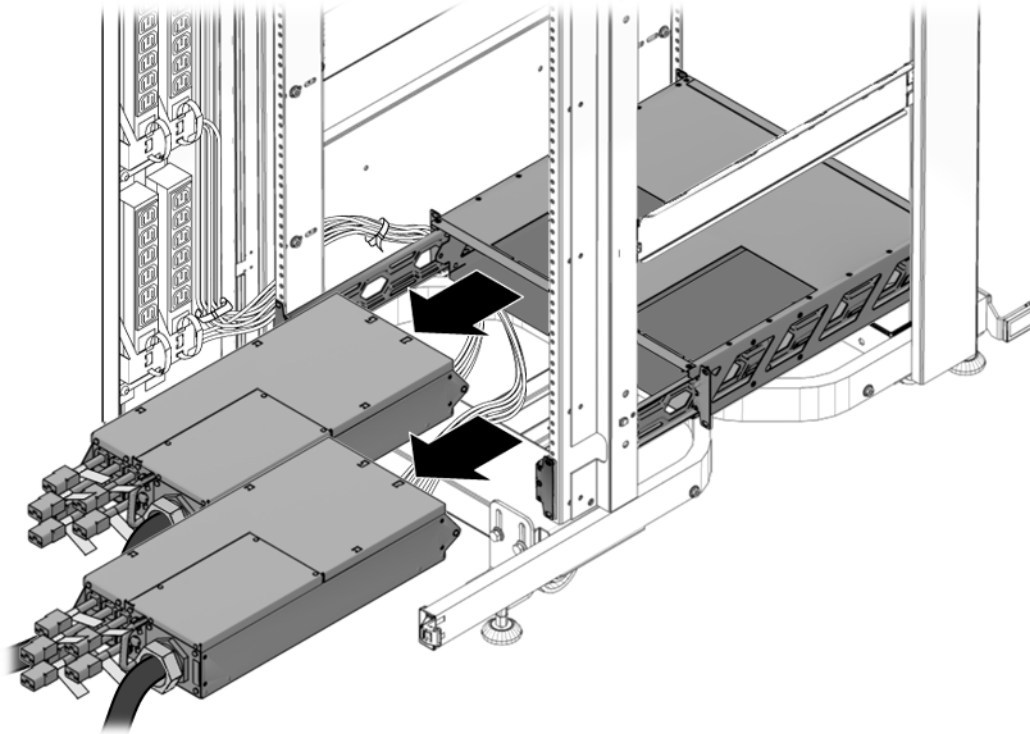

FIGURE 2-13 Power Distribution Module Removal
1. Carefully pull the cable bundles from under the modular power supply carrier and around the side of the rack vertical columns (FIGURE 2-13).